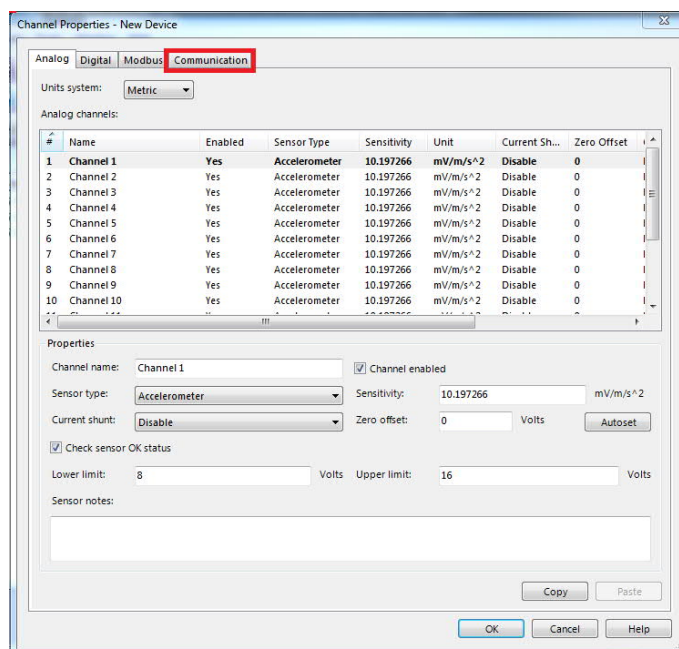

Figure 3. Communication tab
3. Next, click on the Communication tab. [Figure 3]